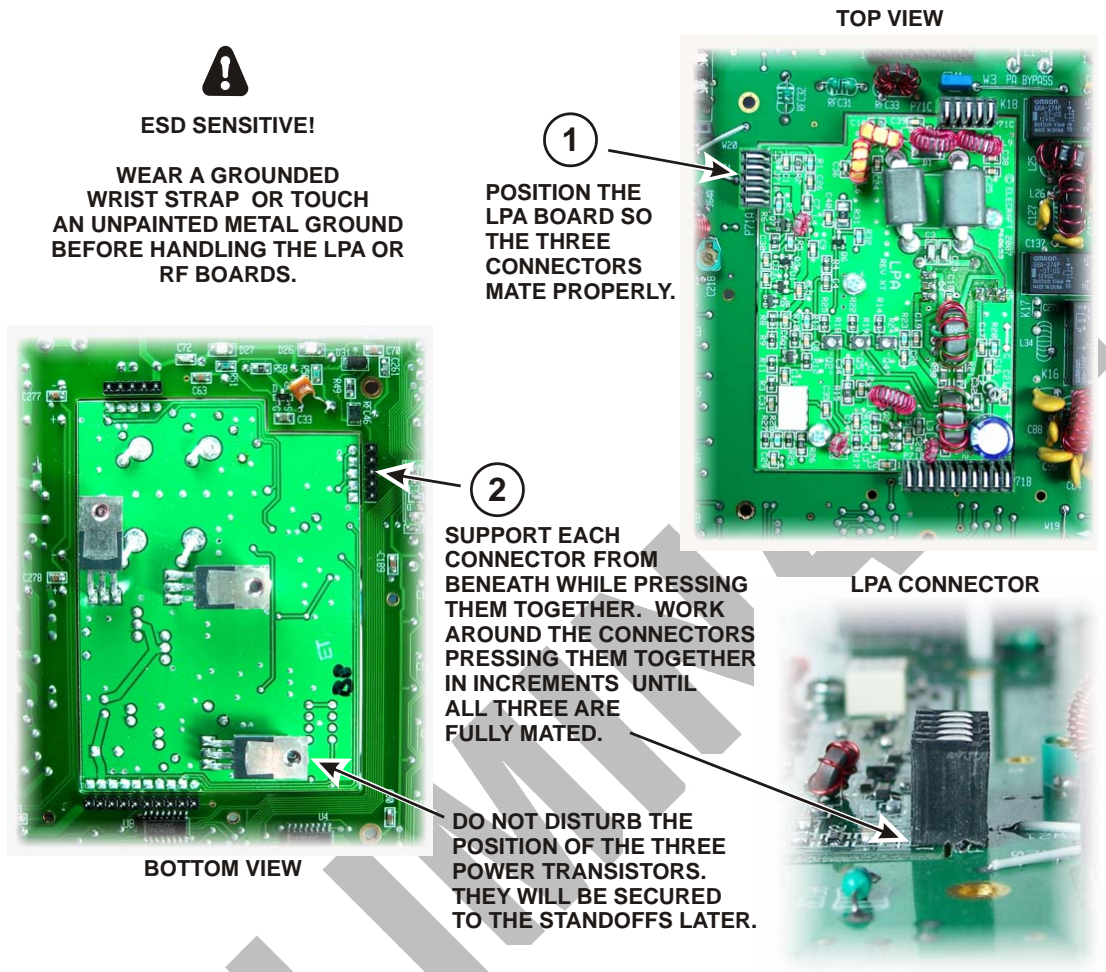

Figure 13. Installing the Low Power Amplifier (LPA).
□ Install the Low Power Amplifier (LPA) board in the cutout on the RF board as shown in Figure 13. The LPA board is held in place by its connectors until the bottom cover is installed..